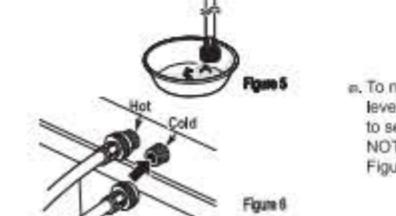

Figure 5
- Always run a gallon or two of water through each inlet hose to flush dirt, scale and other debris out of the water lines. Doing so will help prevent future problems with clogged filter screens, and will also allow you to verify which water line is hot and which is cold. (Figure 5)